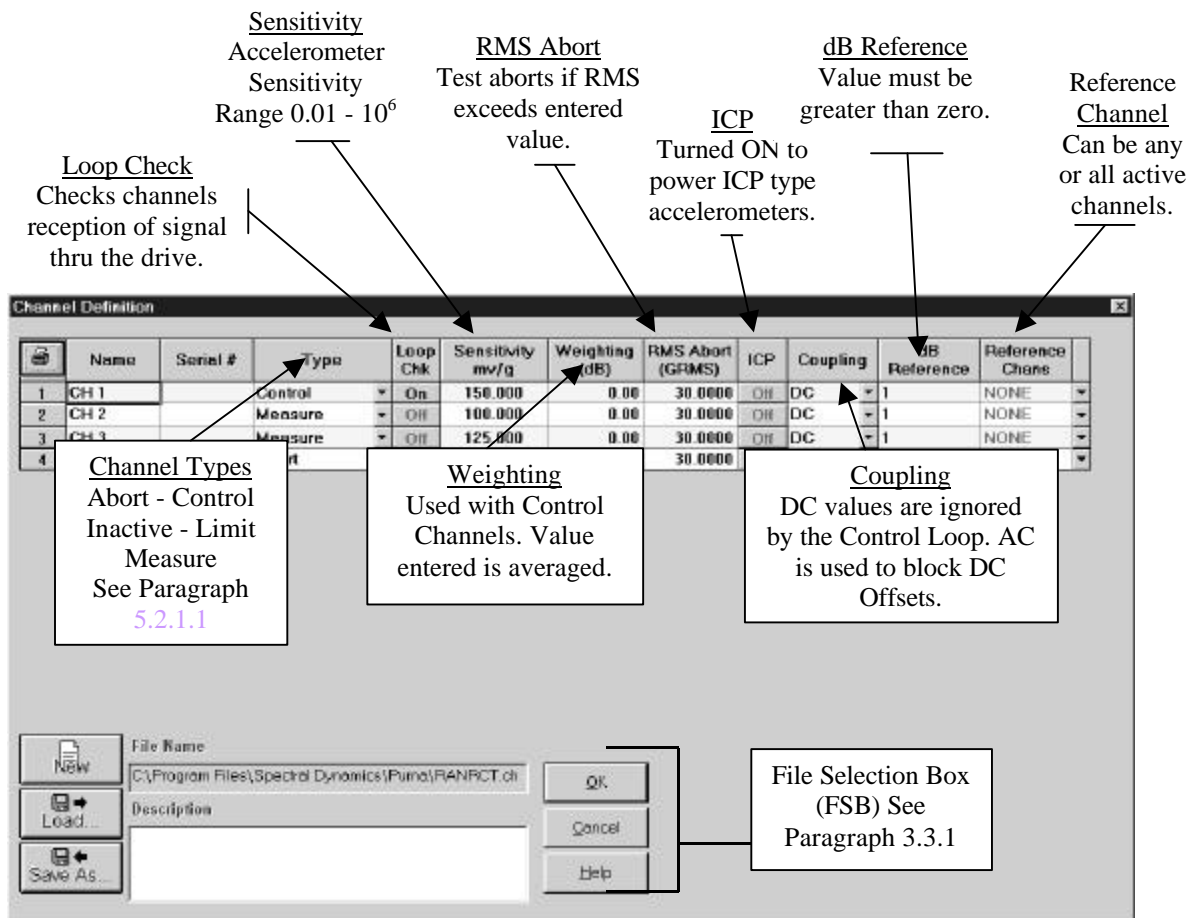
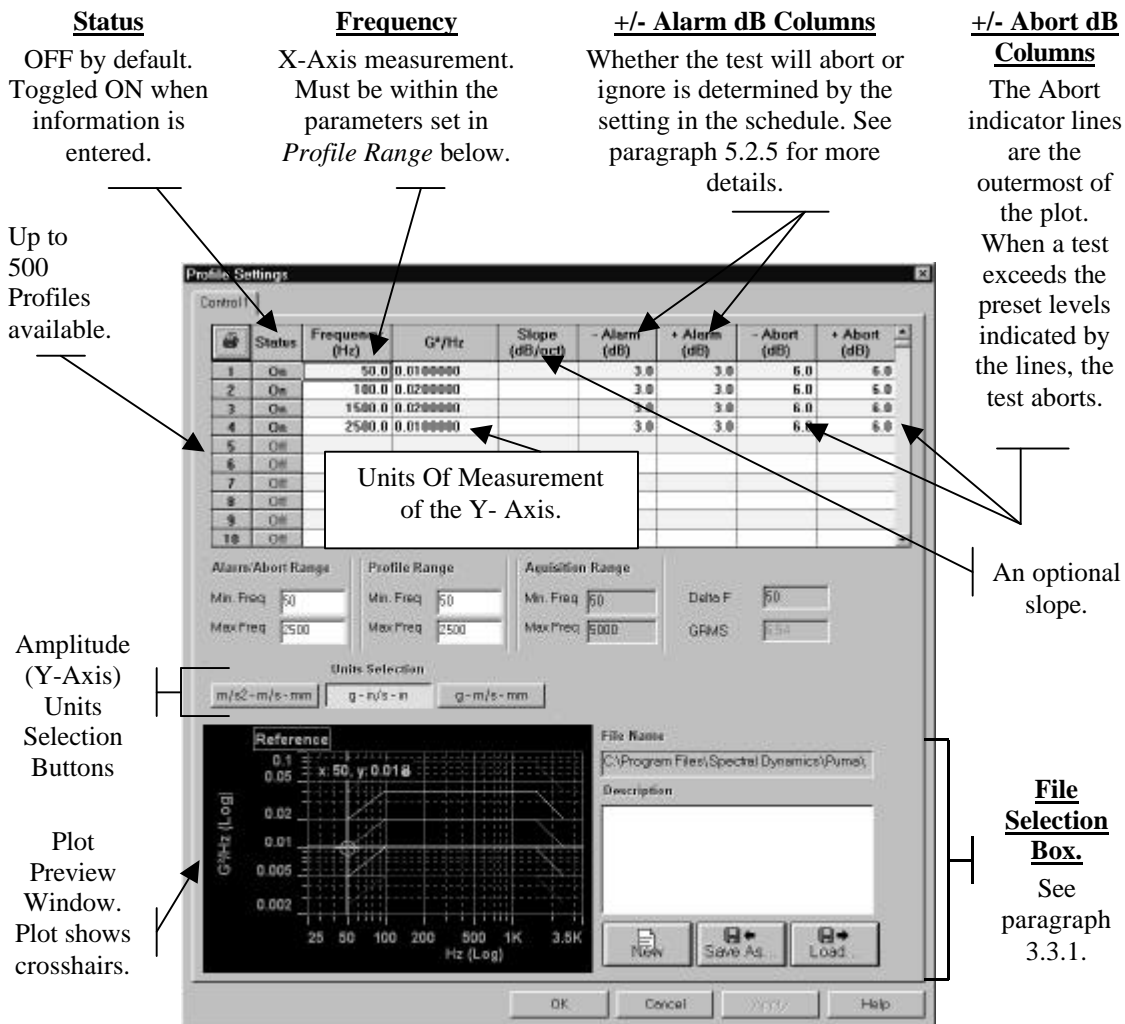
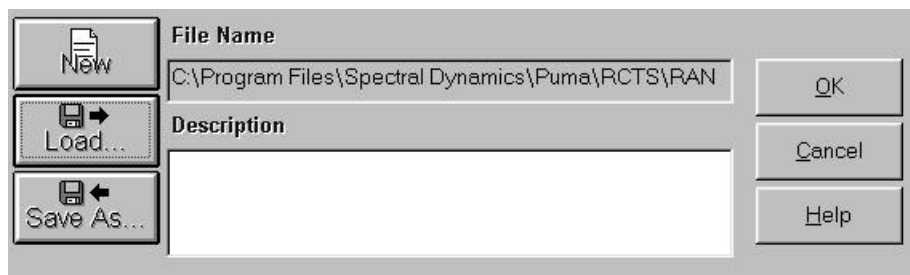

Figure 3-4. Channel Definition Window
Figure 3-5. Broadband Profile Settings
Figure 3-11. File Selection Box
1. Click **SETUP** ⇒ **CHANNELS**. The Channel Definition Window appears. See Figure 3-4 and paragraph 5.2.1 for details.
3. Click **SETUP** ⇒ **BROADBAND PROFILES**. The Profile Settings Window appears. See Figure 3-5. Refer to paragraph 5.2.4 for Profile Definition information.
Throughout PUMA there is a need to save the parameters of tests, load those same parameters for another test or just start on something brand new. The File Selection Box (FSB) (Figure 3-11) is shown in the lower left hand corner of Figures 3-4 and 3-6 and the lower right hand corner of Figure 3-5. It is a common Windows tool and is used throughout the PUMA platform though sometimes the format is somewhat different. The components of the FSB are outlined below for the primary setup areas of Channel Definition, Profile Settings and Schedule Setup.